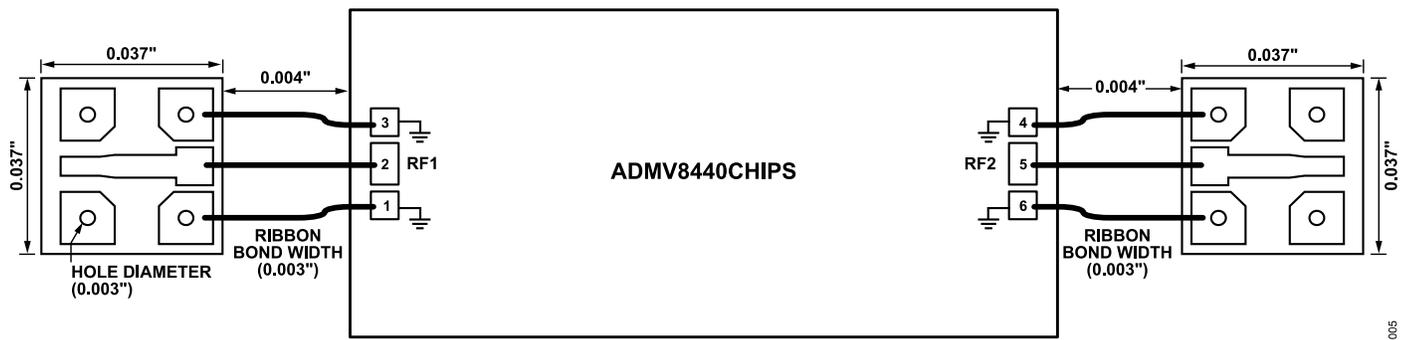

Figure 29. Matching Circuit Using GSG
- ▶ A matching circuit for a GSG implementation can be achieved using a combination of ribbon bonds and metal trace on the input and output RF transmission lines. Figure 29 shows an example of GSG implementation.